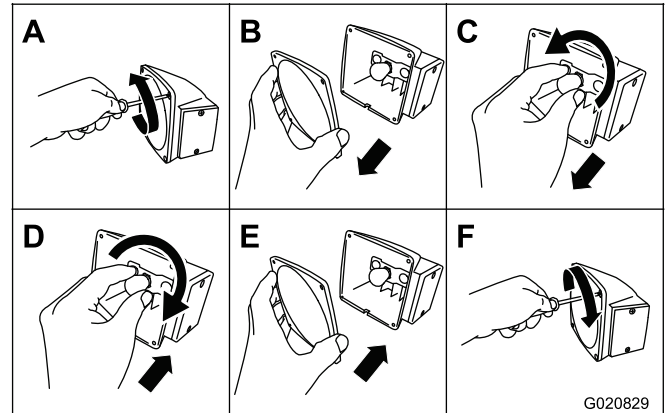

Figure 56
1. Use a screwdriver to remove the 4 screws from the large square lens on the light (Figure 56).
2. Remove the lens (Figure 56).
3. Push and twist the bulb counterclockwise to remove it from the socket (Figure 56).
4. Push a new 1157 bulb into the socket and then twist it clockwise (Figure 56).
5. Install the lens and the 4 screws (Figure 56).